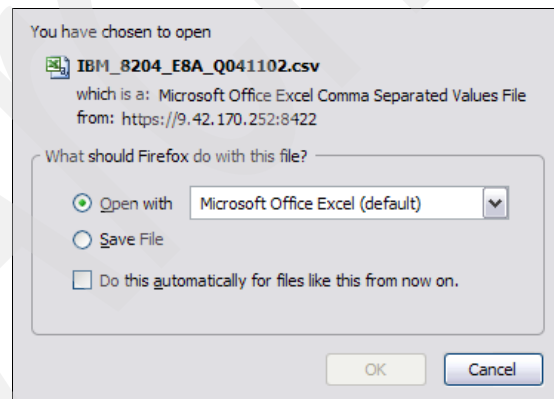

Figure 6-54 Exporting data in Mozilla Firefox
- For Mozilla Firefox, the window shown in Figure 6-54 opens. As for Microsoft Internet Explorer, you can choose to open the .CSV file in Microsoft Excel. However, Mozilla Firefox saves the file to your desktop only.